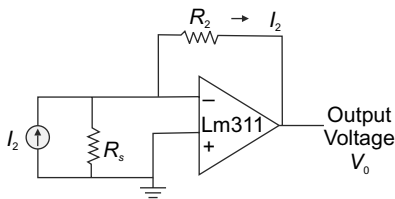
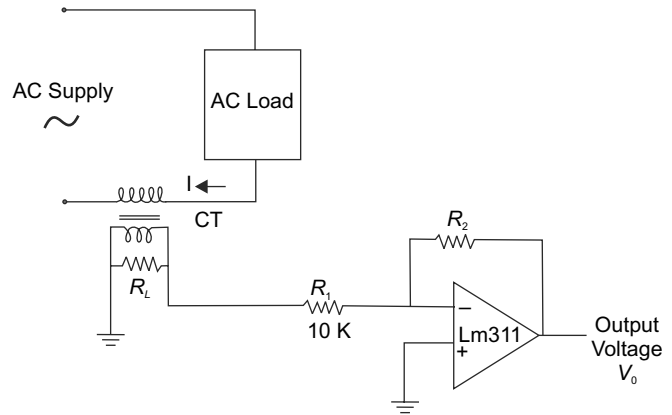

Fig. 10.14 A dc current to voltage converter
Fig. 10.15 An ac current-to-voltage converter
In current measurement, firstly the current must be converted into voltage using I to V converter and then voltage is measured by the microprocessor with the help of an A/D converter and 8255 programmable peripheral interface IC. Figure 10.14 shows the dc current-to-voltage converter circuit. Current flow through the R_s resistance is zero as operational amplifier is virtually grounded. Therefore, I_2 current flows through resistance R_2 and output voltage is equal to $V_o = -I_2 R_2$. The ac current-to-voltage converter circuit using Current Transformer (CT) and operational amplifier is depicted in Fig. 10.15. If output voltage at secondary of CT is V_1 , output voltage will be equal to $V_o = -\frac{R_2}{R_1} V_1$.